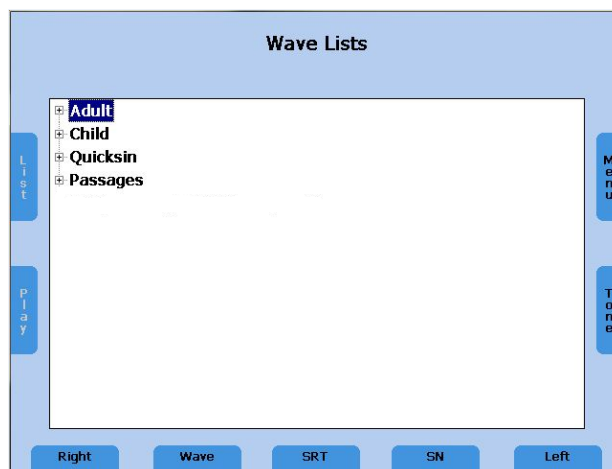

Figure 12 - List of Speech Test Wave Files
If Wave is selected by the speech signal selector (11) or (15), a menu will pop-up with available word lists which are stored on the SD memory card (see Figure 12). A word list can be selected by using the level control (1) to scroll through the list. A list can be loaded by pressing the stimulus button.